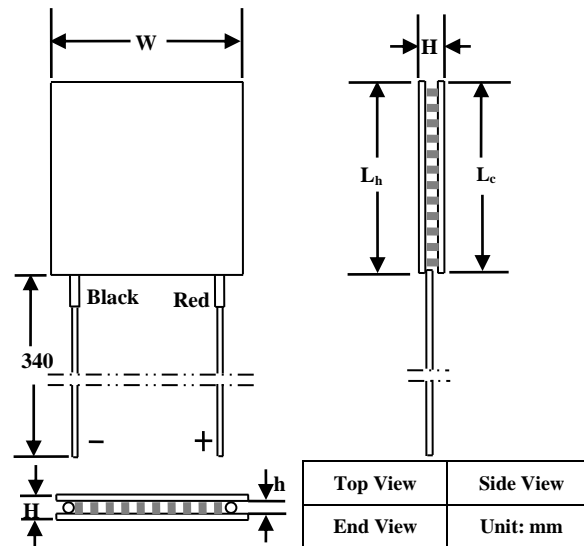

Figure 6. Mechanical Dimensions of ATE1-31-3A
The ATE1-31-3A TECs come with 2 insulated lead wires. The positive wire is in red color with the length of 13 inches, 340mm, and the negative wire is of black, with the same length. The mechanical dimensions are shown in Figure 6.
**Note:** As Figure 6 shows, when the red lead wire is on the right, then the top surface is the cold side of the TEC.